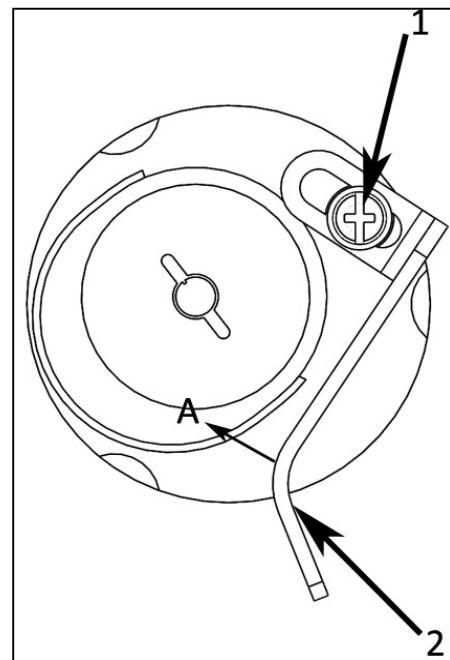

Fig. 29
- A. Loosen the screw (1) and adjust amount of wound thread by moving the lever (2) – in the direction of the arrow (A) to decrease the amount of thread and in the opposite direction to increase the amount of thread (see fig. 29)